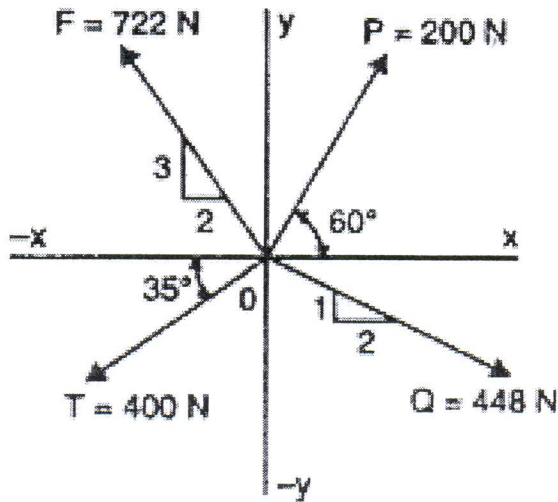

Figure 1
a) Find X and Y components of the given forces system shown in the figure 1.